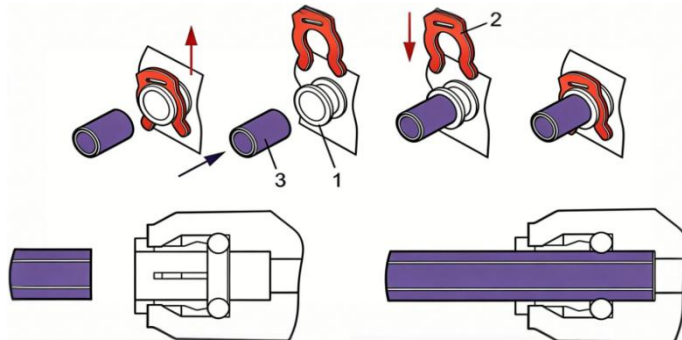
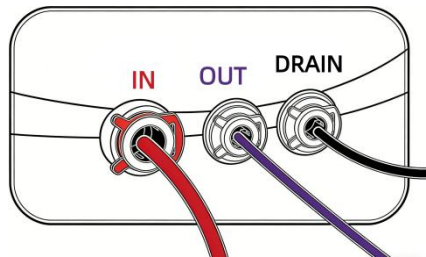

Figure 6. Connecting PE Tubes
Figure 11. Water Inlet Pipe Connection
Step 1. Connect the water inlet pipe according to the diagram below(Figure 11).See Figure 6 for tube connection diagram